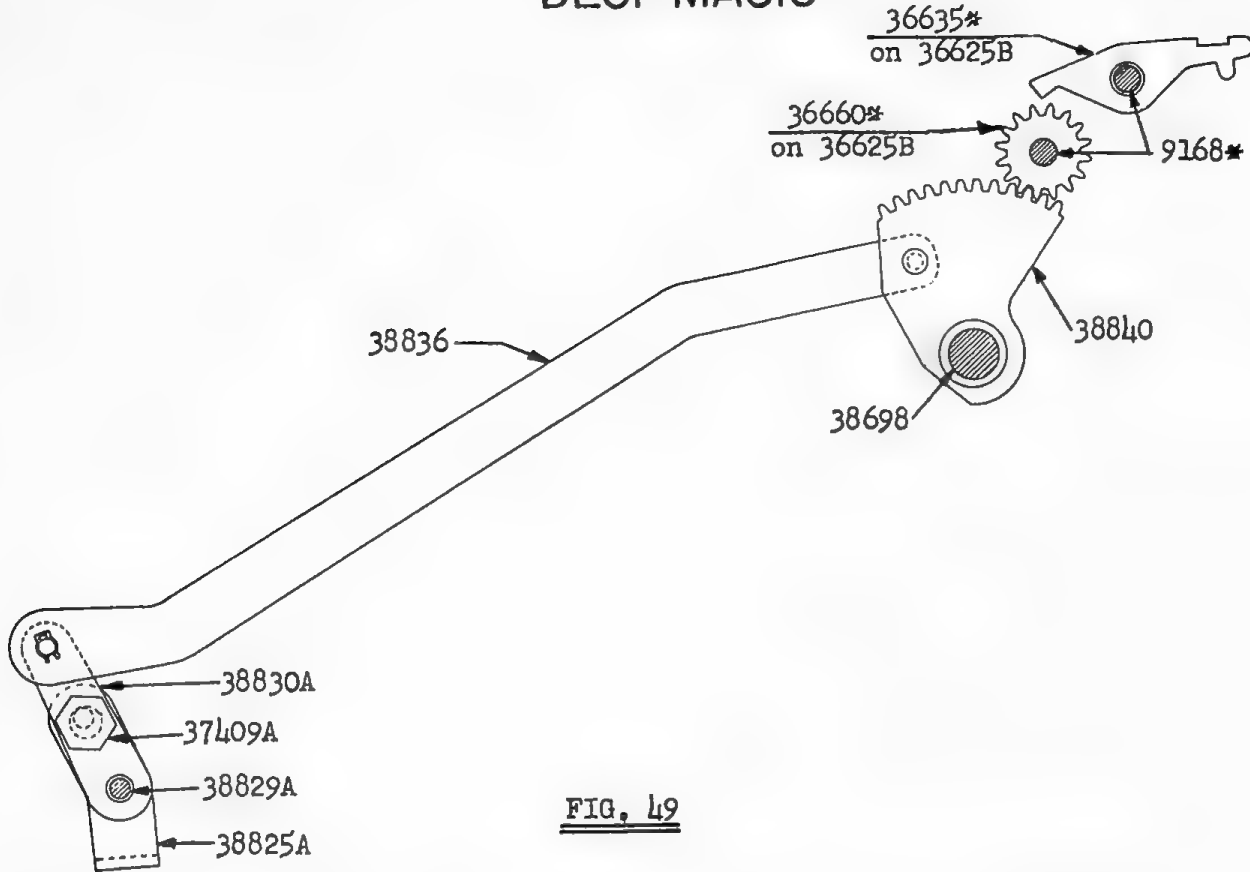

FIG. 49
3. (Fig. 49). Connected to the right arm of Transfer Bail-38825A by Eccentric-37409A is an Adjustment Arm-38830A which connects to the Multiplier Selection Segment-38840 through Link-38836, thus positioning the Multiplier Trip Unit-36625B. Operation of the Pawl-36635* and Multiplier Count-out is continued in the stand-